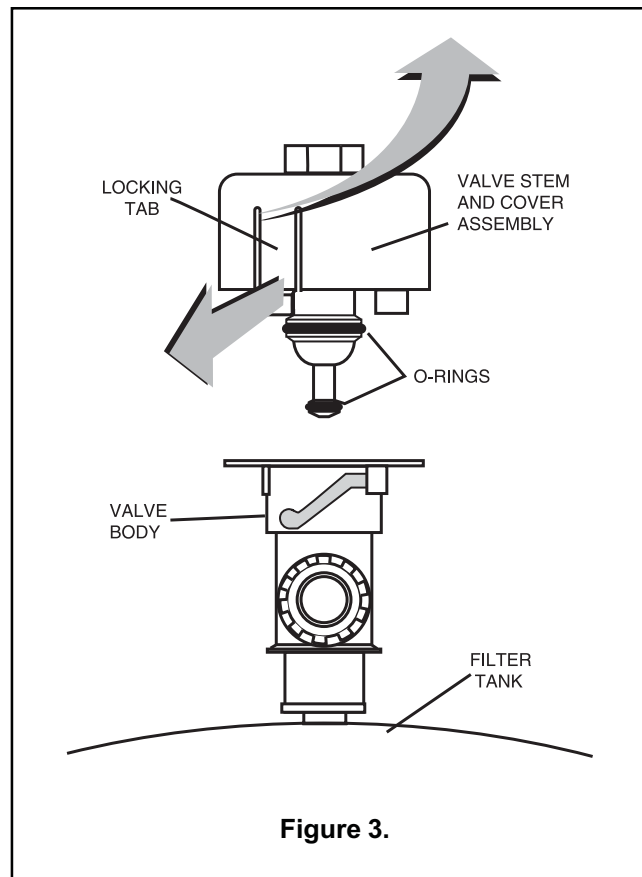

Figure 3.
3. With the High Flow™ manual relief valve attached to the filter tank, pull out the locking tabs and remove the valve stem and cover assembly with a counter-clockwise and lifting motion, see Figure 3.